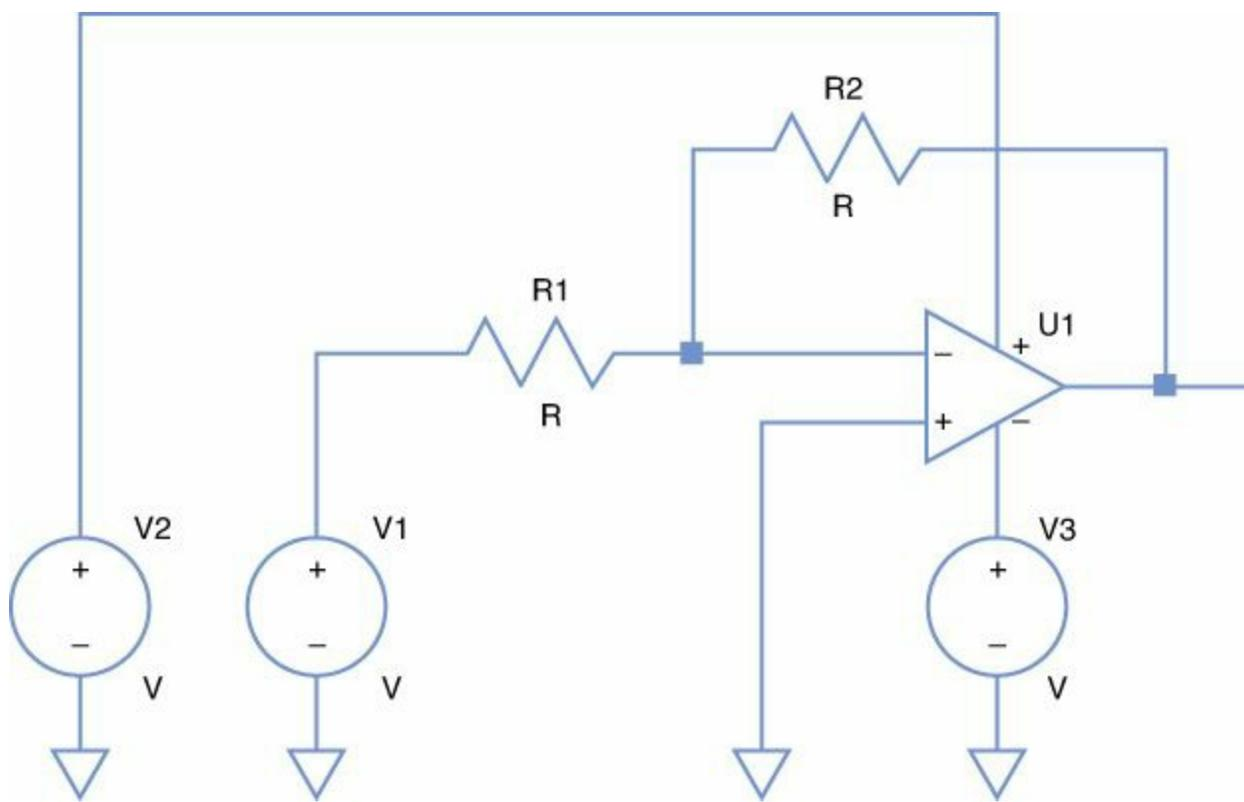

Figure 9.5: The Inverting Amplifier Circuit in LTspice
The components' exact positions aren't important, but an orderly arrangement makes it easier to view the circuit and create connections. For now, the goal is to position the 10 circuit elements in the manner presented in Figure 9.5.
5. Rotate the two resistors from vertical to horizontal, and move all the components in the manner shown in Figure 9.5.
6. Draw connections between the circuit's components as shown in Figure 9.5.
7. The input resistor (R1 in Figure 9.5) connects a voltage supply to the op-amp's negative terminal. Change the resistor's name to R_i and its value to 1k. Change the other resistor's name to R_f and its value to 5k.